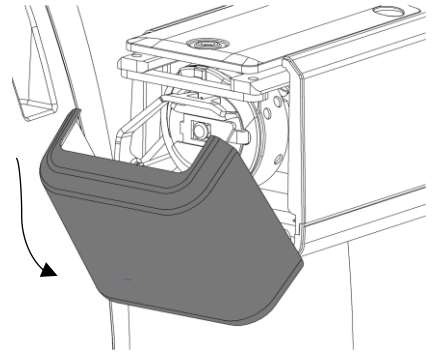

Figure 38
1. Open the bobbin housing unit. See Figure 38.